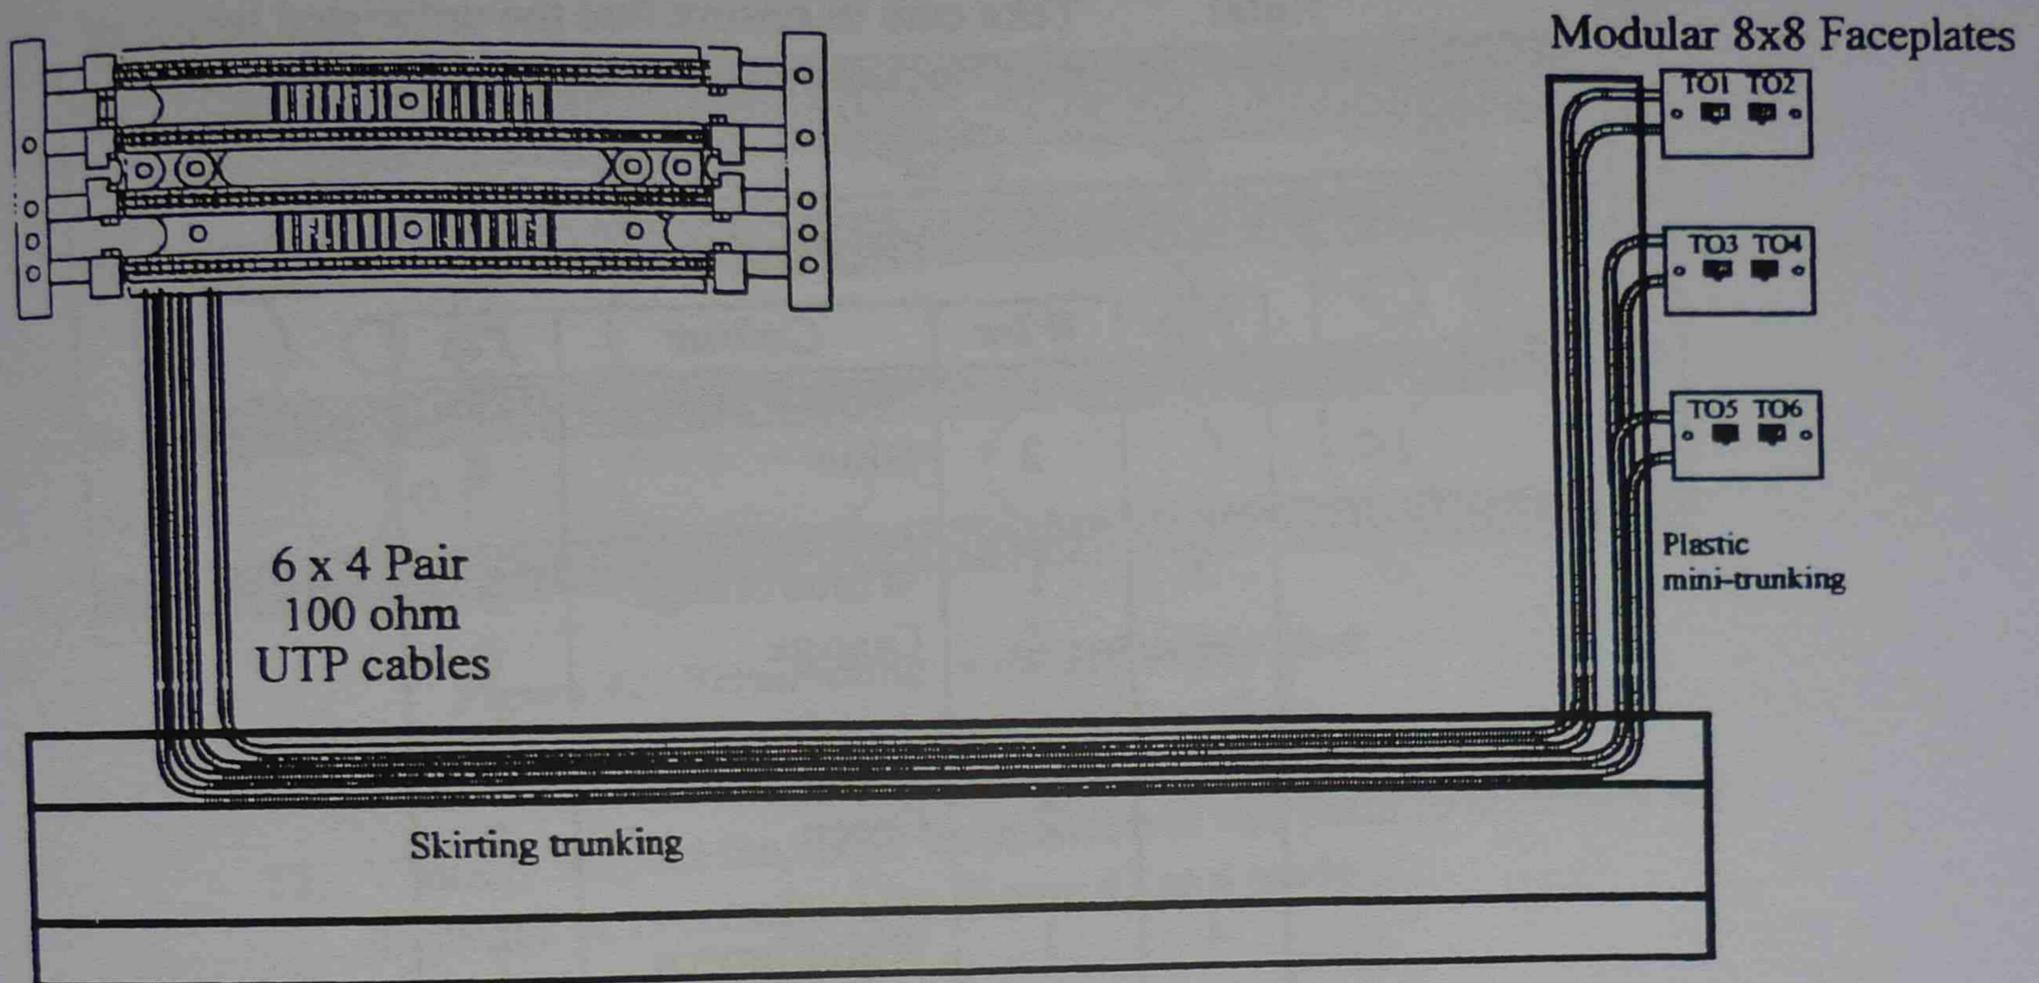

Figure 39 Setting out the work board
1. Secure the mounting blocks, skirting trunking and plastic trunking to the work board using Figure 39 as a guide.
2. Fix one 100 pair 110 wiring block onto the left side of the work board using the necessary tools and hardware. Use Figures 39 and 40 as a guide for positioning the blocks.
4. Install two 4 pair Category 5 cables between each module of the 110 Block. Use Figure 39 as a guide.